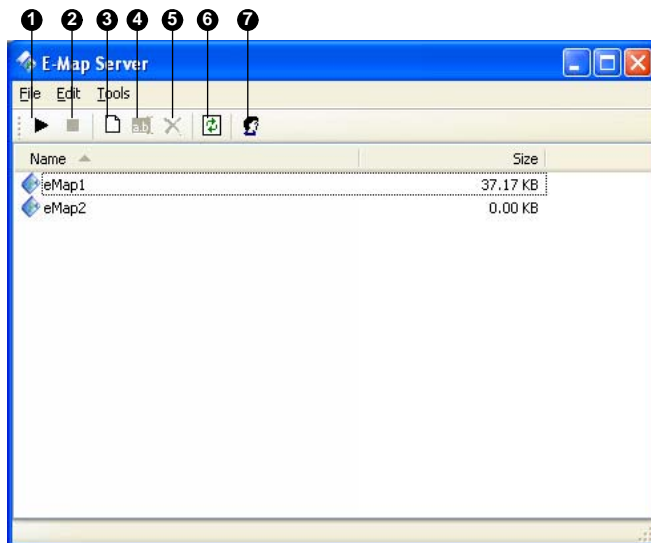

Figure 9-9
1. Click the **New** button (No.3, Figure 9-9) to create e-map(s). For details on creating an e-map file, see *Creating an E-Map File* earlier in this chapter.
2. Click the **Accounts** (No. 7, Figure 9-9) button to create a user account that will use the server.